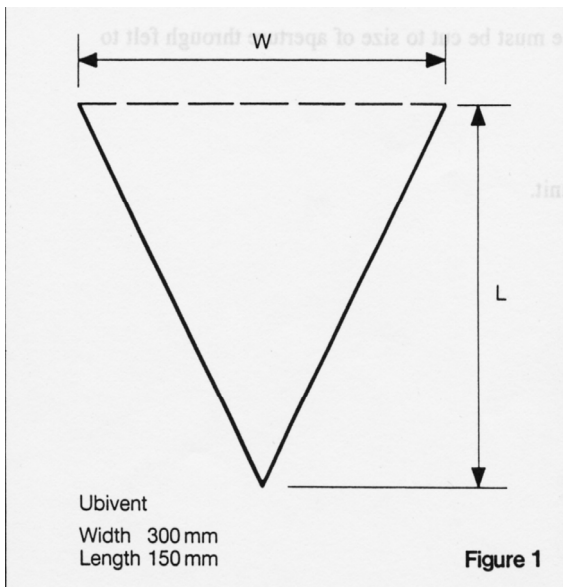

Figure 1
a) Cutting sarking felt as per Figure 1 immediately beneath the batten; this will position the hole in the felt underneath the hole in the underside of the vent.
As per 2 on the instructions (Figure 1).